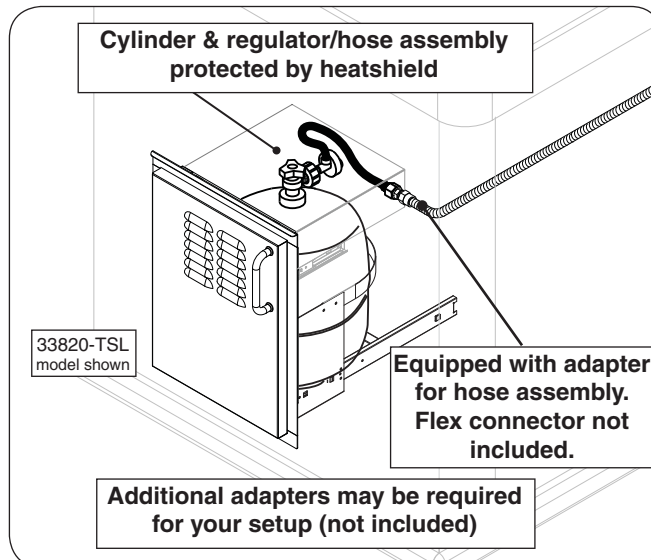

Fig. 12-3 Optional RHP door w/ tank tray
- **RHP offers propane tank door with tank tray models and a propane tank heatshield that rests directly on the tank to meet the cylinder install requirements. See Fig. 12-3. Contact your dealer for ordering information.**